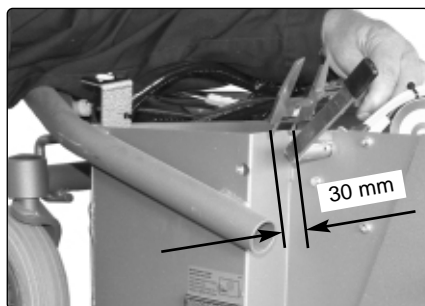

Fig. 5. Measure and mark 30 mm from the corner
5. Measure and make a mark 30 mm from the corner, see Fig. 5.